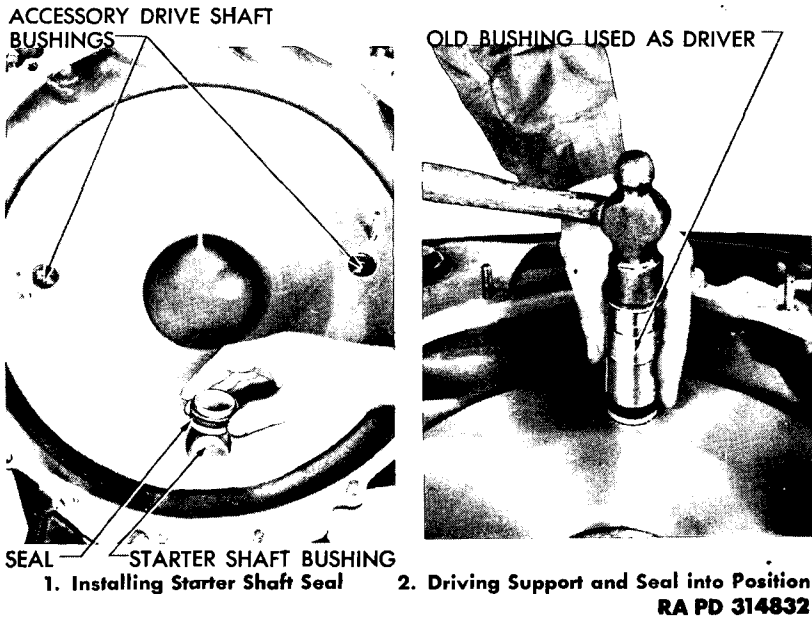

Figure 196 – Installing Starter Shaft Seal and Support
b. **Install Starter Shaft Seal.** Make sure that fuel distribution chamber is absolutely clean, and free from burs and scratches. Install new rubber seal complete with supporting bushing (fig. 196). Place new seal on starter seal support, and insert support in starter shaft opening. Using an old starter shaft bushing as a driver, drive assembly into opening until it bottoms on starter shaft bushing (fig. 196).